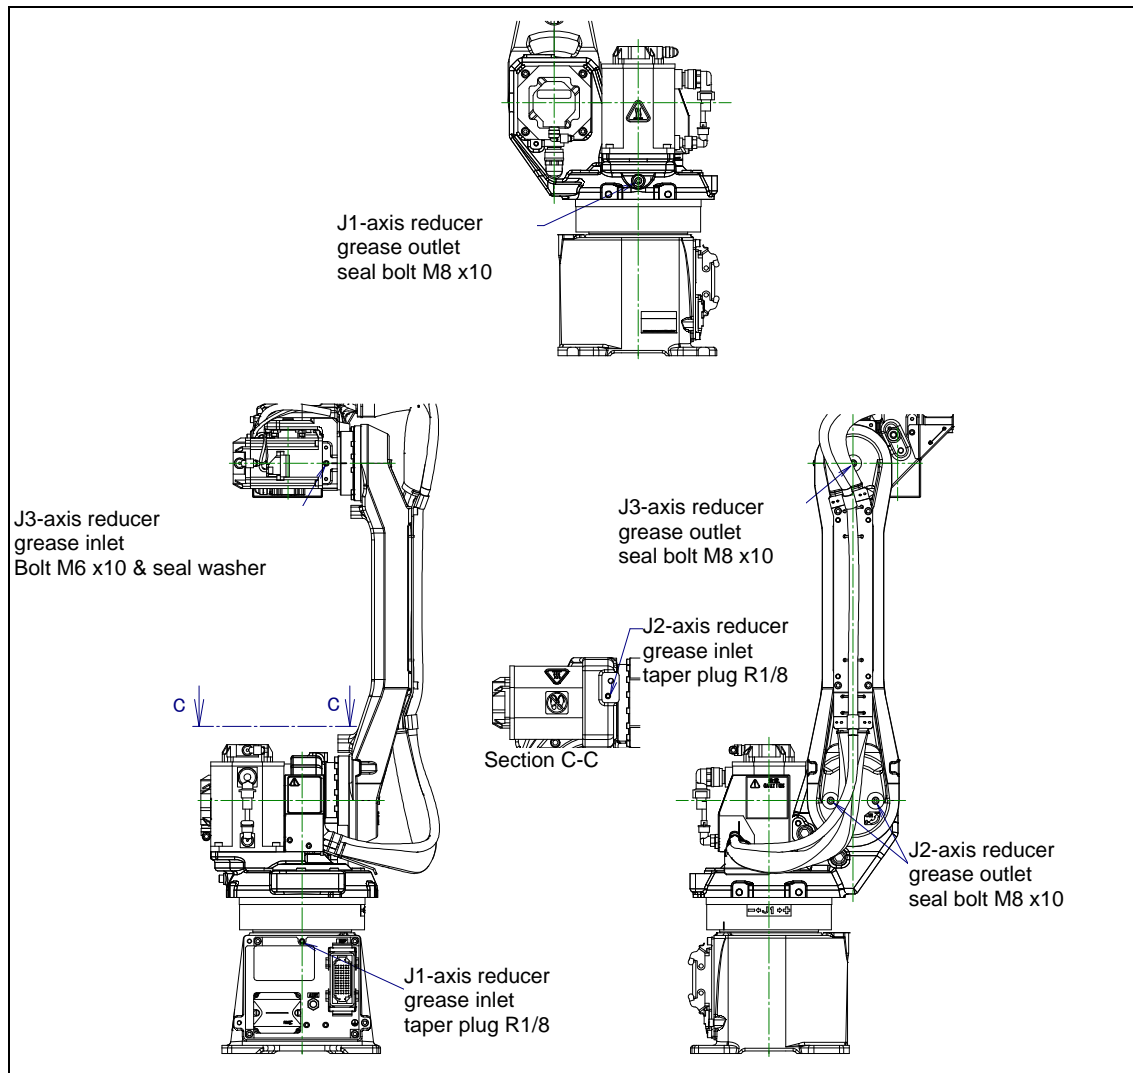

Fig. 7.3.2.1 (a) Greasing point of J1 to J3-axis reducer
- 3 Remove the taper plug or seal bolt from grease outlet. (Fig.7.3.2.1 (a))